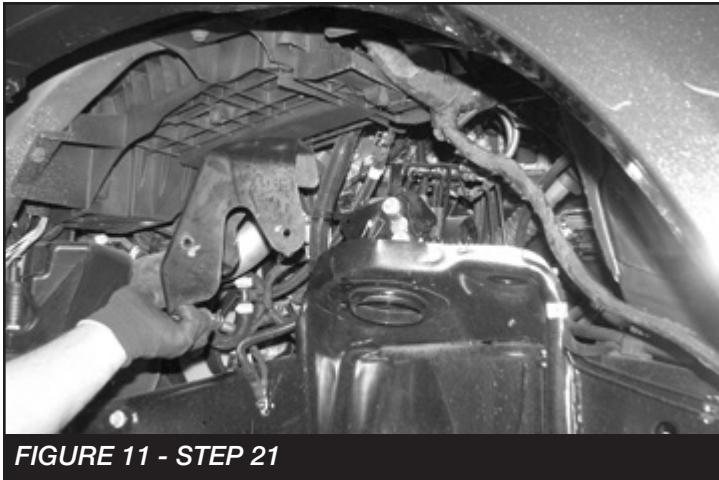

FIGURE 11 - STEP 21
21. **DRIVER SIDE ONLY** - Locate the Brake control module on the top of the coil bucket. **SEE FIGURE 11**